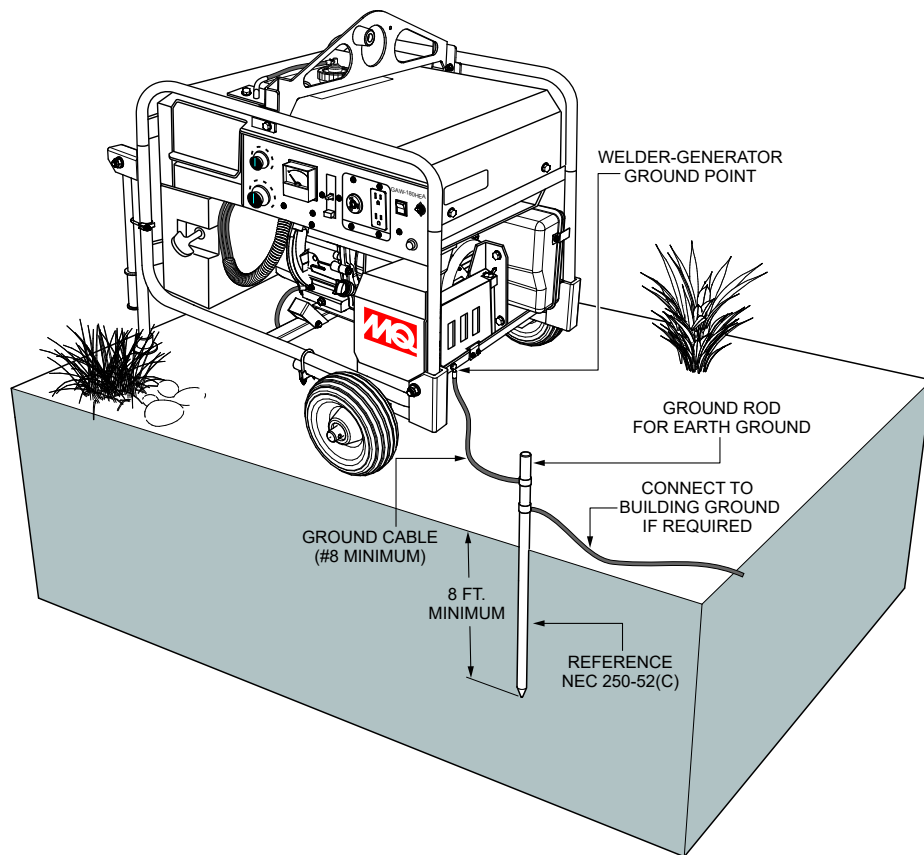

Figure 5. Welder-Generator Grounding
At the generator, connect the terminal of the ground cable between the lock washer and the bolt (Figure 5) and tighten the bolt fully. Connect the other end of the ground cable to a suitable earth ground (ground rod).
2. When grounding the generator (Figure 5) connect the ground cable between the lock washer and the nut on the generator and tighten the nut fully. Connect the other end of the ground cable to earth ground.